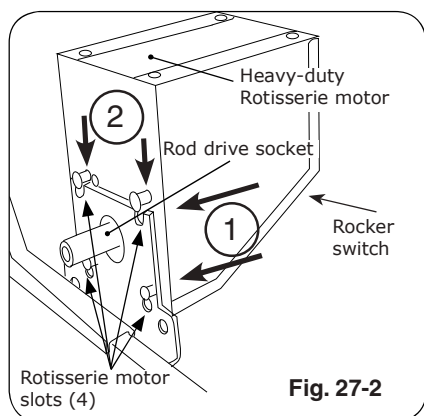

Fig. 27-2
10. Plug-in the rotisserie motor and press the rocker switch to start (Fig. 27-2).